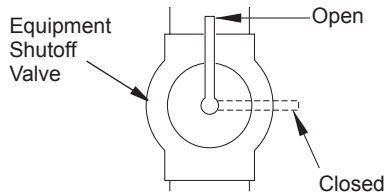

Figure 23 - Equipment Shutoff Valve
1. Close equipment shutoff valve (see Figure 23).
1. Open equipment shutoff valve (see Figure 23, page 16).